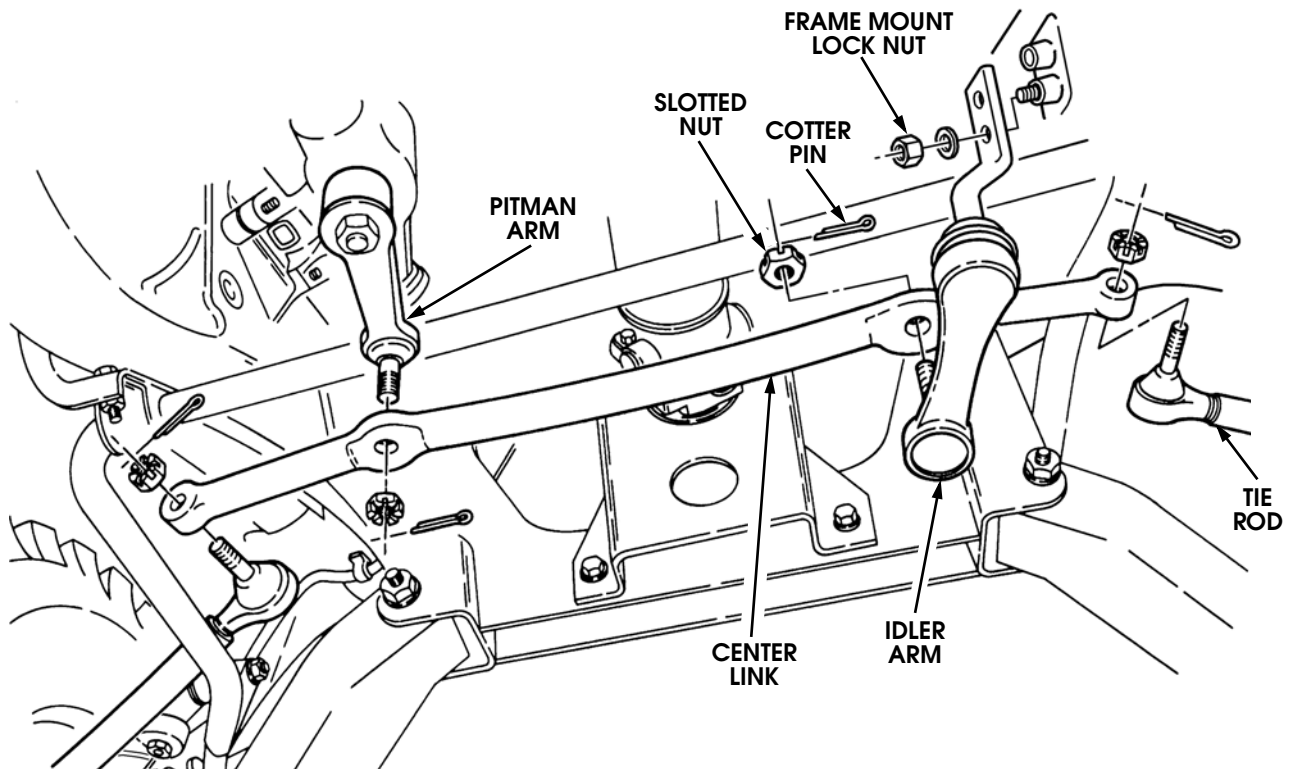

Figure 2: Idler arm and center link replacement.
2. Remove the cotter pin and the slotted nut securing the idler arm to the center link (See Figure 2).
2. Remove the cotter pin and the slotted nut securing the pitman arm to the center link (See Figure 2).